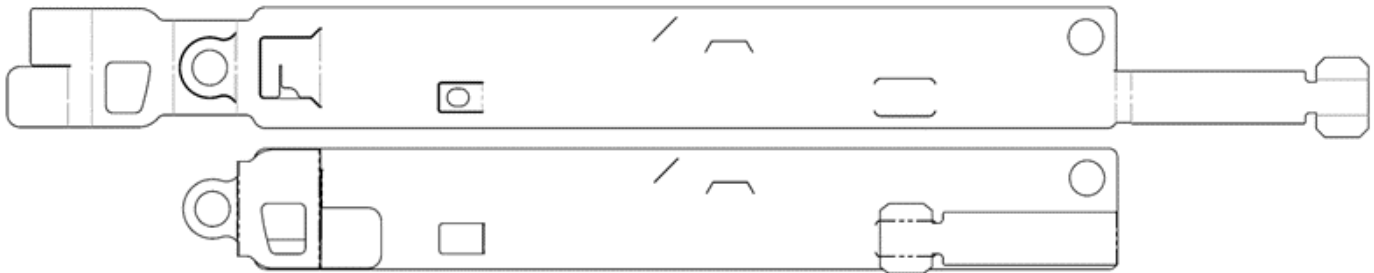

Figure 1A (top) / 1B (bottom): Convert Flat Pattern Robotic Arm Sterilization Card into a 3D Structural State
1. Convert flat pattern Robotic Arm Sterilization Card into a 3D structural state by folding left most flap and right most flap 180° to achieve 3D state. Note that provided score lines indicate where to make folds. Figure 1A and 1B show a before & after conversion of the Robotic Arm Sterilization Card from a flat state to a 3D state.